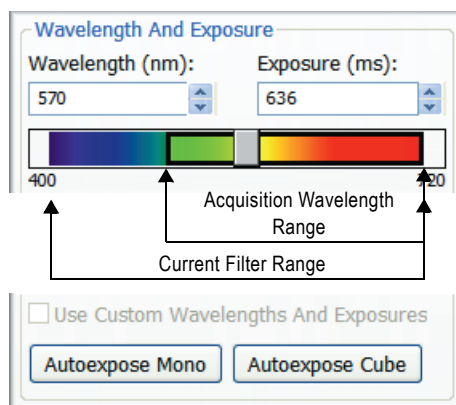

Figure 31. Wavelength and Exposure
- Drag the slider to the desired wavelength. The slider snaps to the wavelength intervals set in the acquisition settings. As shown in Figure 31, the wavelength slider indicates the current filter range. The highlighted region on the slider represents the acquisition wavelength range. The colors on the slider approximate how we would see the wavelengths within the range.